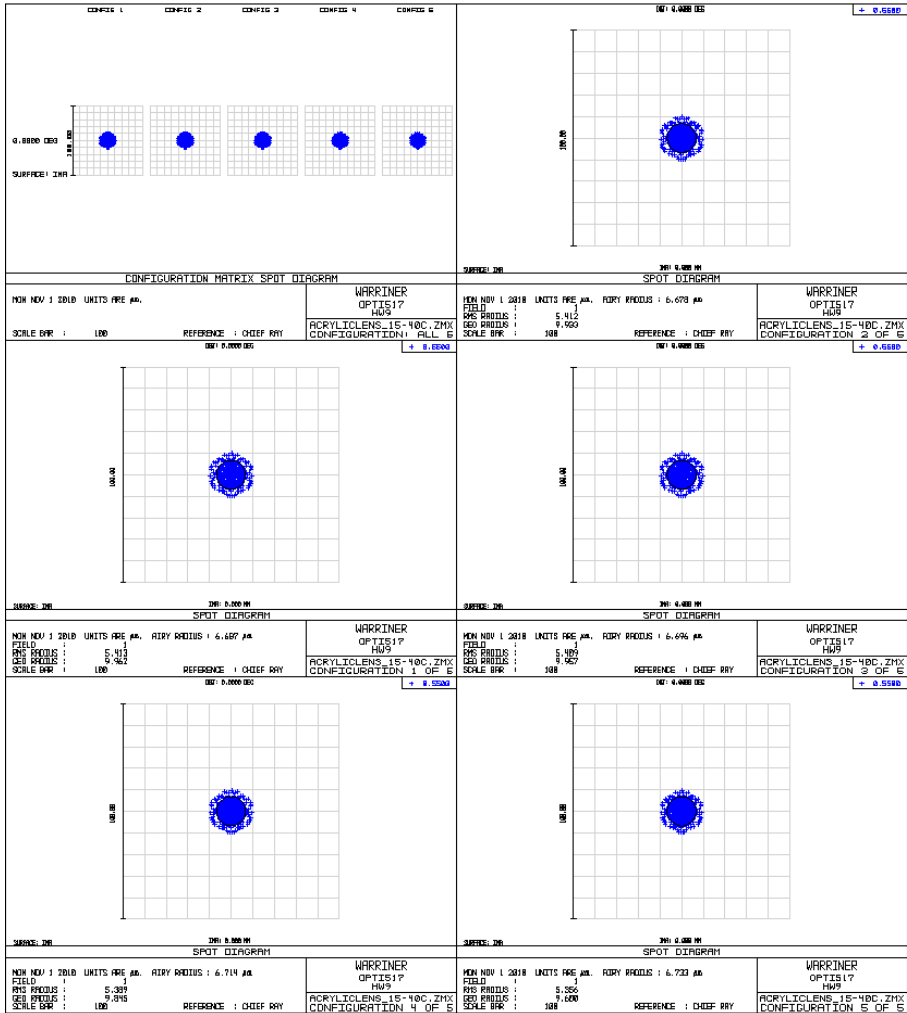

Figure 13: RMS spotsize over temperature for the optimal CTE value of 267E-06
12. Reoptimize the system and update performance report graphic. Figure 13, which reproduces this report, shows that Zemax’s estimated RMS spot radius is now essentially constant and less than the Airy radius over temperature.